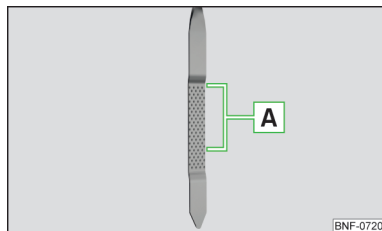

Fig. 109
The oil level must lie in range **A** » Fig. 109. If the oil level is below range **A**, oil must be added.
- The oil level must never be below range **A** » Fig. 109 – risk of damage to the engine as well as to the exhaust system.